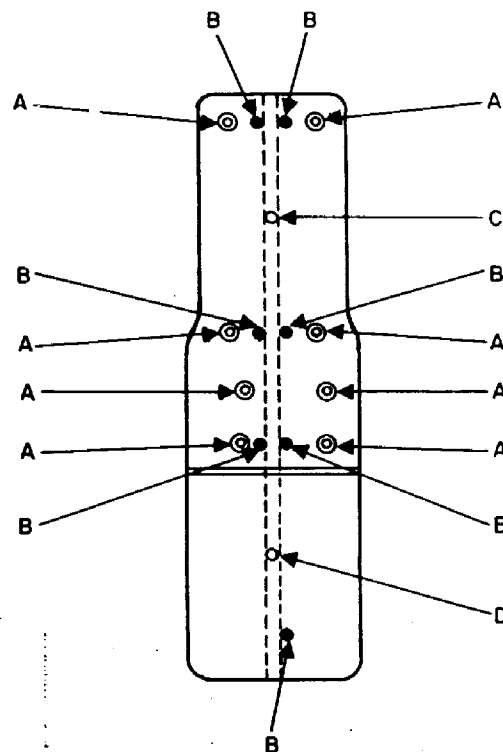

Figure 1. Coin Telephone Backboard.
- (1) Place the backboard (see Figure 1) against the wall vertically (it is important that the backboard and the coin telephone are exactly upright).
- (2) Mark through holes B onto the wall.
- (3) Drill holes, where marked, to take 1/4-20 anchors.
- (4) Push a loop of inside wire through backboard hole C.